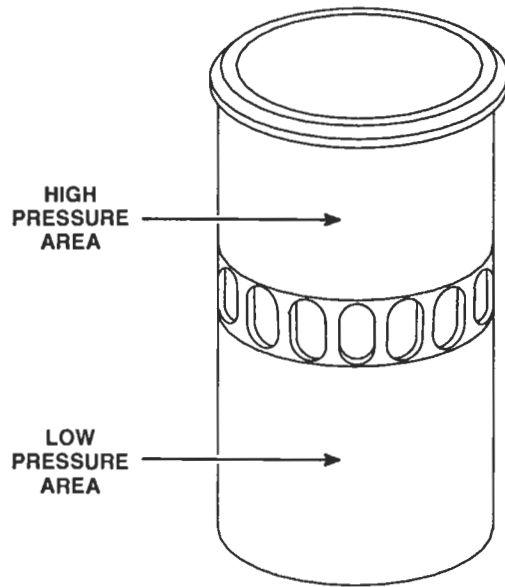

Figure 11. High Pressure Areas on Cylinder Liner
2. The cylinder liner is alternately expanding and contracting during engine operation, due to temperature variations. This may result in irregularities in the block bores (out-of-round and taper), the effects of which will be seen as high pressure areas on the outside diameter of the cylinder line (Figure 11.) A slight increase in block bore size is normal with high mileage or long periods of engine operation.